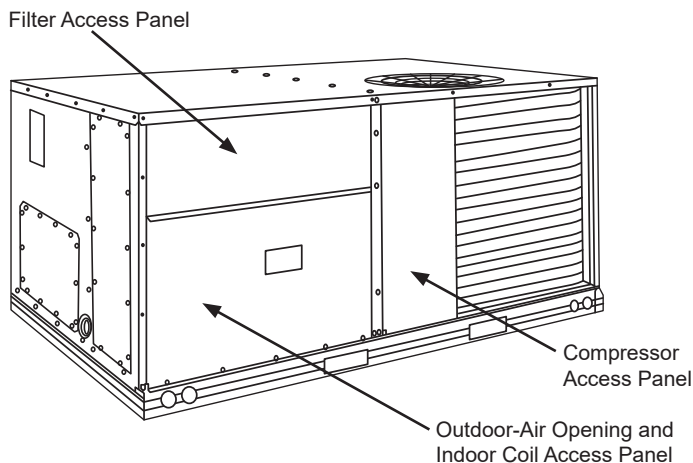

Fig. 1 - Typical Access Panel Locations
Step 2: Remove the existing unit filter access panel. Raise the panel and swing the bottom outward. The panel is now disengaged from the track and can be removed. See **Figure 1** Set the filter door aside for re-installation later.
Step 3: Remove the indoor coil access panel and discard. See **Figure 1**.